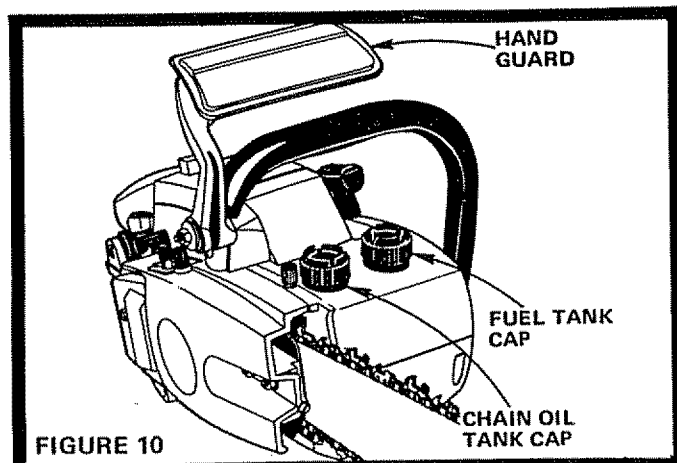

FIGURE 10
1. Push Hand Guard to the rear for easier filling of Fuel and Oil Tanks (Fig. 10).
2. Fill Chain Oil Tank (Fig. 10) with Sears Bar and Chain Lubricant-suitable for use in any temperature. You may also use any good multi-grade automotive type oil. If used in temperatures below 0°F, thin oil with a small amount of kerosene (approximately 6 ounces per quart of oil). Tighten Cap securely. NOTE: THIS TANK IS FOR BAR AND CHAIN LUBRICATION ONLY.
2. Fill Fuel Tank (Fig. 10). NOTE: DO NOT OVERFILL. ALLOW 3/4 INCH FOR EXPANSION. Tighten Cap securely.